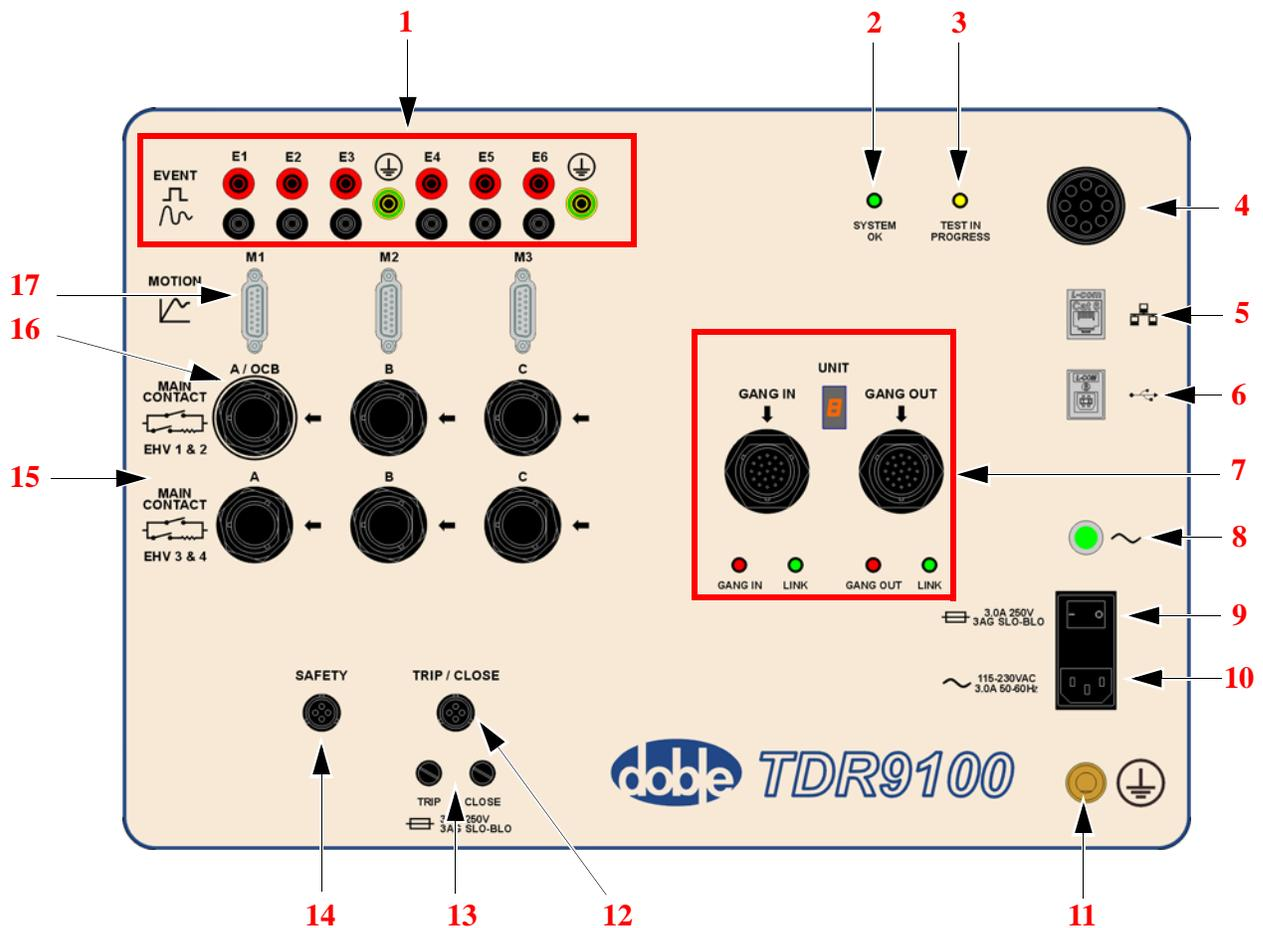

Figure 11.1 TDR9100 Front Panel
1. Plug the ground cable into the TDR9100 ground receptacle. (See **11** in Figure 11.1 on page 158.) Connect the other end to the substation ground.
2. Plug the safety switch cable into the SAFETY receptacle. (See **14** in Figure 11.1 on page 158.) If you plan to use an external trigger, plug in the Safety Bypass flag.
4. Attach the power cord. (See **9** in Figure 11.1 on page 158.)
- USB(See **6** and **5** in Figure 11.1 on page 158.)
See **16** in Figure 11.1 on page 158. Connect alligator clip leads as labeled: A,B,C Common or 1,2,3 Common.
See **15** in Figure 11.1 on page 158. Connect alligator clip leads as labeled: PH A, Contact 1,2, Common, etc.
1. Attach one end of the Doble-supplied auxiliary contact cable to a pair of auxiliary contact channel banana jacks. (See **1** on Figure 11.1 on page 158.)
1. Attach the TDR9100 end of the Doble-supplied analog cable to a pair of Analog Channel banana jacks. (See **1** on Figure 11.1 on page 158.)
The TDR9100 end has a shield connector. Be sure to attach the shield (green and yellow) banana plug to the chassis ground (green and yellow) banana jack. (See **15** on Figure 11.1 on page 158.)
1. Plug the TDR9100 end of the analog cable into the desired Analog Channel connector. (See 1 on Figure 11.1 on page 158.)
The Analog Channel inputs are polarity sensitive. Be sure to attach the shield (green and yellow) banana plug to the chassis ground (green and yellow) banana jack. (See 11 on Figure 11.1 on page 158.) The banana jacks for multiple shields can be stacked.